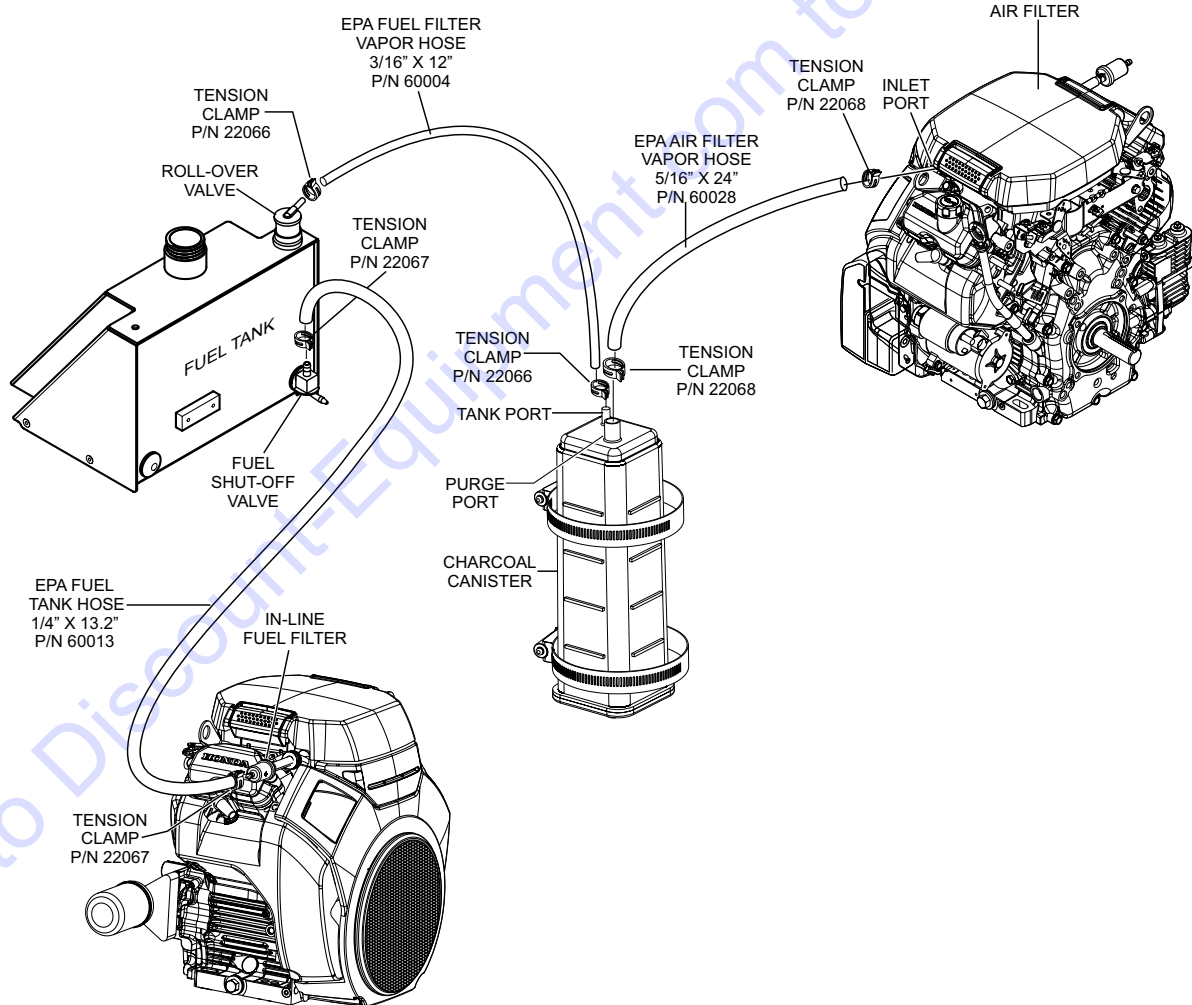

Figure 3. EPA Fuel Hoses Configuration
3. At the charcoal canister (Figure 3) remove the existing air filter vapor hose from the **charcoal canister purge port**.
1. At the charcoal canister (Figure 3) remove the existing fuel tank vapor hose from the **charcoal canister tank port**.
2. At the **in-line fuel filter**, remove the existing hose on the tank side (Figure 3).